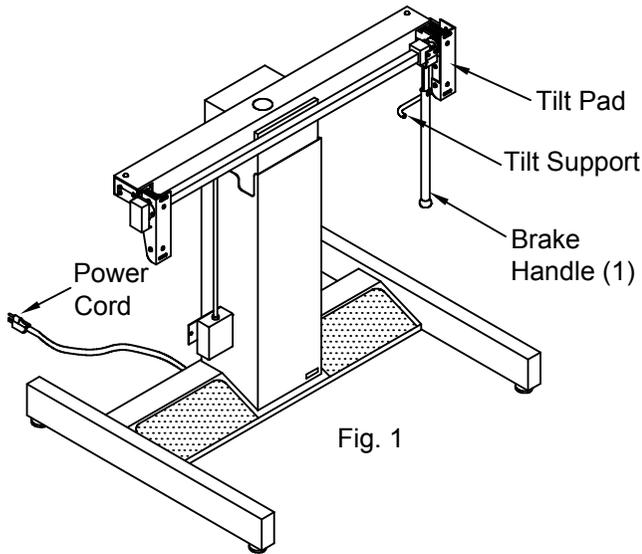

Fig. 1
1. Slide Handle Assembly (1) over the toggle arms and attach it with Rivet (E6) so handle rests in the Tilt Support (Fig.1). (See Brake Handle / Work surface Positioning)
2. Release Brake and move Tilt Pads to a near vertical position. Leave brake released until work surface is attached (Fig. 1).